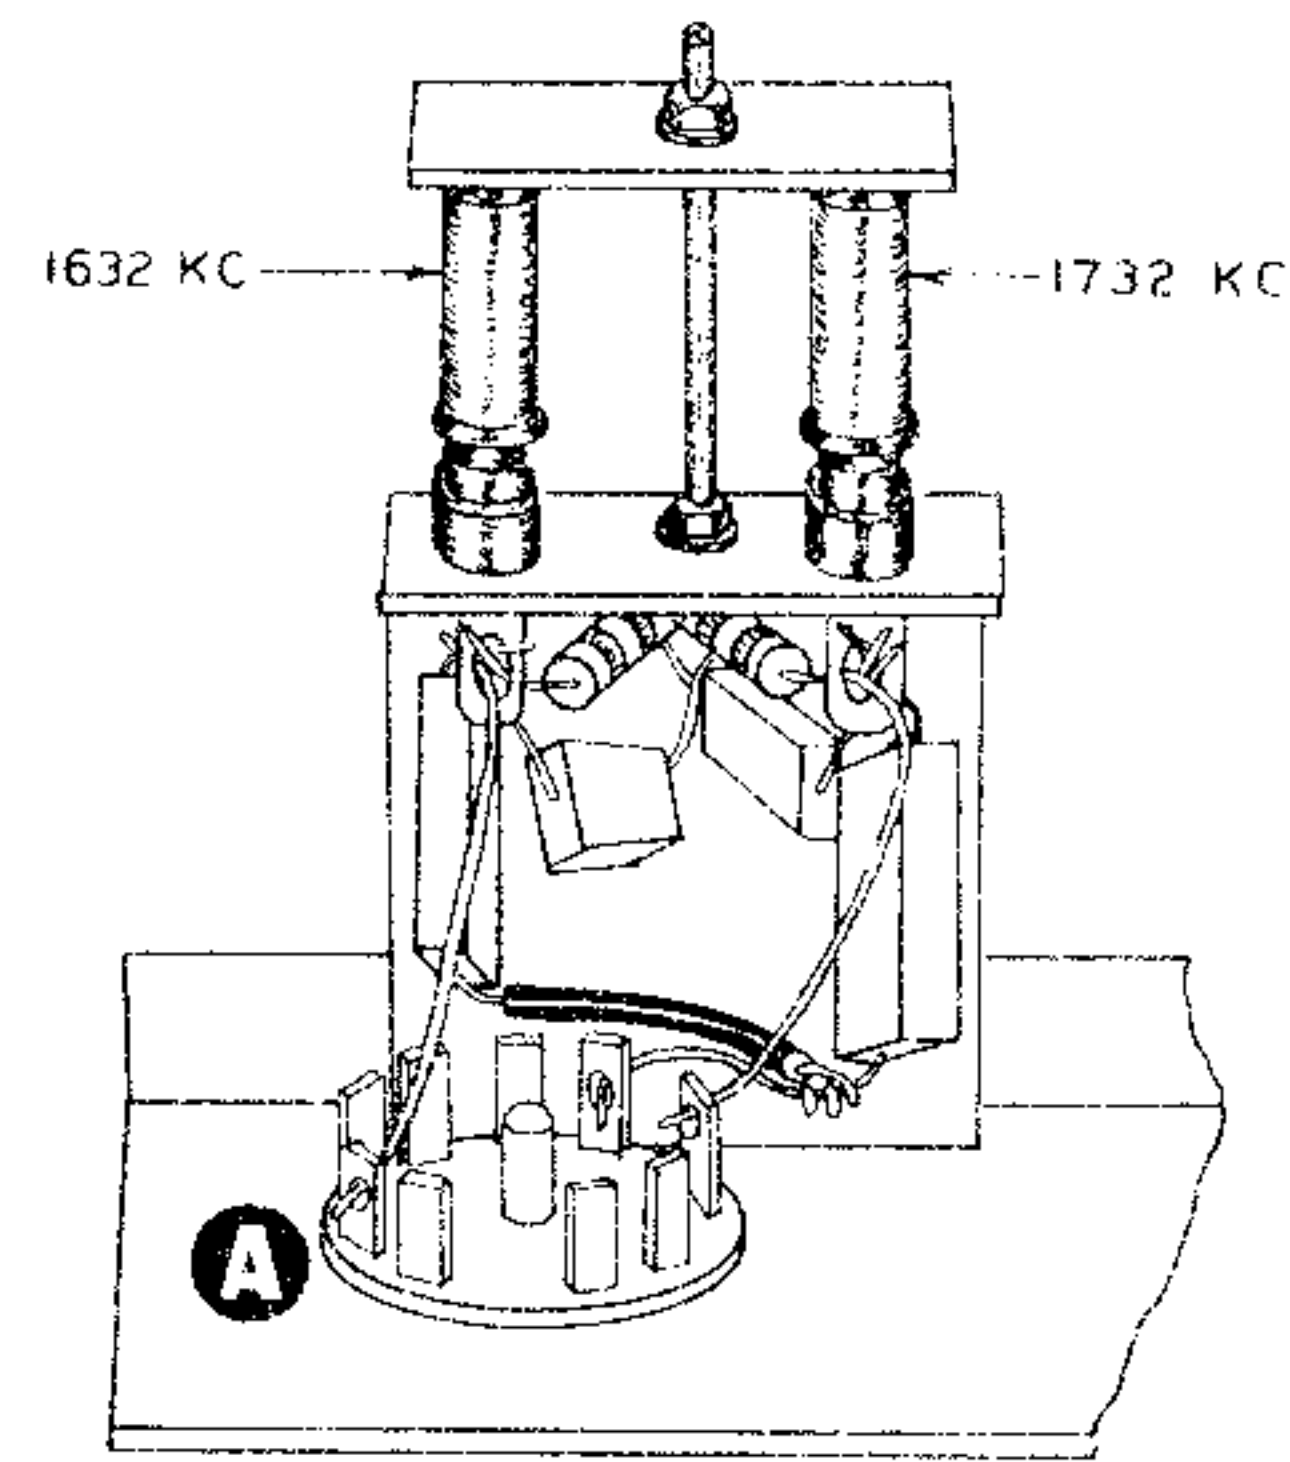

Figure 2A
- ( ) Slip a 3/4" length of insulated sleeving over the free lead of the left .001 mfd capacitor. See Figure 2A. Bend this lead at right angles and connect to the right .001 mfd capacitor (S). Cut off excess lead.
( ) Assemble the crystal mounting bracket to the 1682 KC sub-chassis with 3-48 screws, lockwashers and nuts. The bracket mounts behind socket A; be careful to avoid pinching the wires at this point. See Figure 2A.